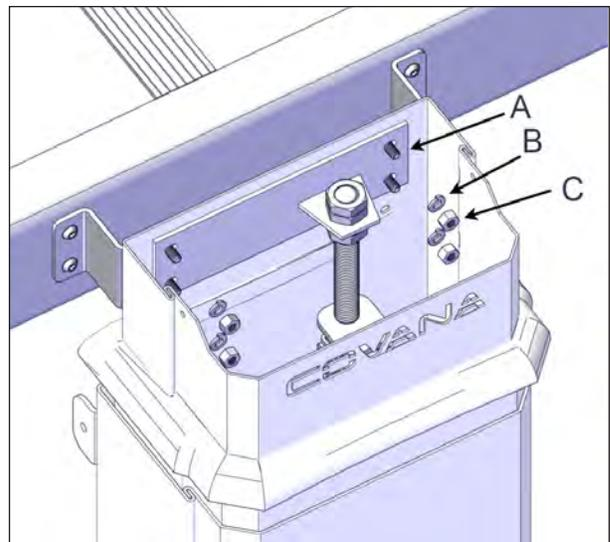

FIGURE 124: JACK ADAPTER SCREW REMOVAL
3. Remove the 1/4-20 x 3/4" carriage bolts (4) of the jack adapter, from each post using a 7/16" (11 mm) socket wrench, see Figure 124.